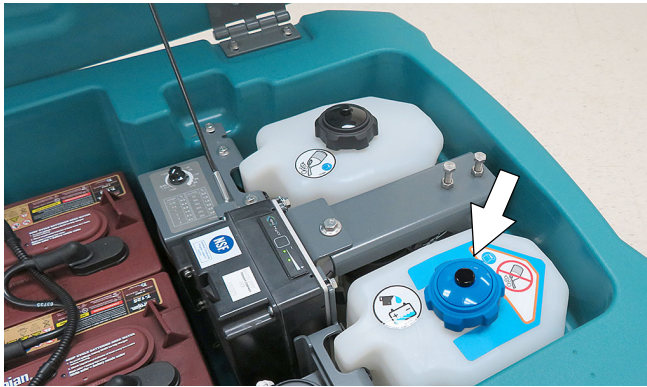

FIG. 32
1. Lift the recovery tank to access the automatic battery watering tank (Figure 32). Drain recovery tank before lifting tank.